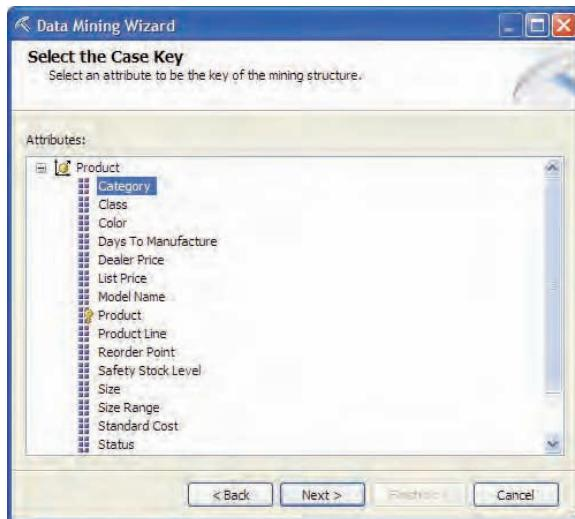

Figure 8.20 Since the sales data needs to be grouped by product category, the Category attribute forms the case key.
- In the Select the Case Key step, select the *Category* attribute (Figure 8.20).